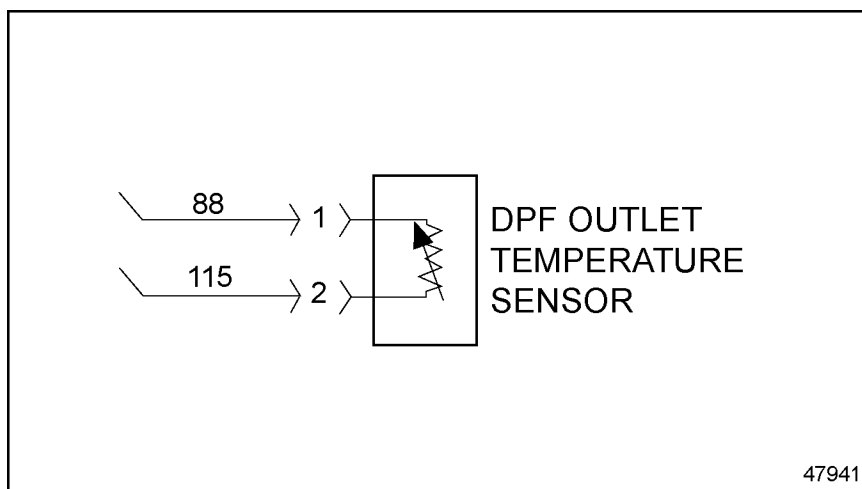

Figure 1 DPF Outlet Temperature Sensor
5. Disconnect the DPF Outlet Temperature Sensor. See Figure 1.